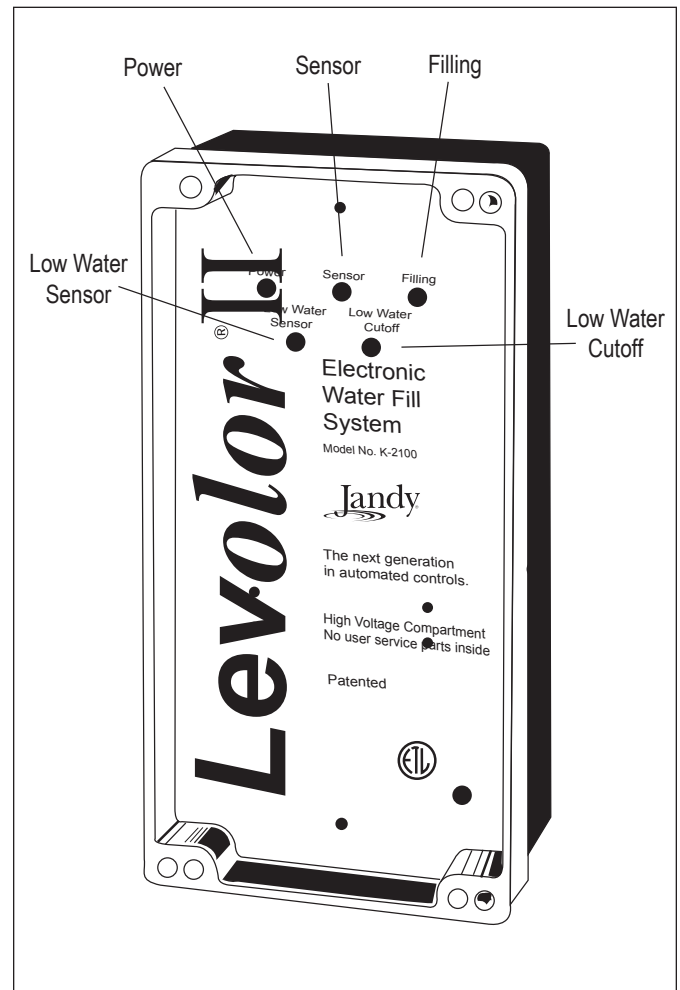

Figure 10. Controller Lights
The controller has five (5) lights. See Figure 10 and Table 2, LED Indicators.